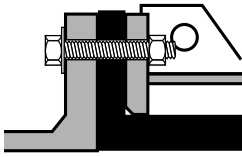

FIGURE 1
Check flange faces of pipe for rough/damaged areas. Pipeline flanges must be flat, properly spaced, and parallel to achieve proper seal. PVC flanges may not seal properly, and are not recommended by Red Valve. If PVC flanges are used, metal back up rings must be placed behind the PVC flanges in order to prevent yielding. Typically, PVC flanges will yield before the valve will seal. Pipeline flanges must be serrated approximately 1/16" deep x 90 degrees using an angle tool point. Pitch must be (6) six cuts per inch. This will prevent the "creep" of the rubber flange of the valve sleeve. Flange I.D.'s must match the sleeve I.D. and must be free of sharp edges which could cut into sleeve flanges. **Flanges with an oversized I.D. can cut the sleeve flange, and are not recommended with the Type A Valve** (See Figures 1 & 2). Grind or file any sharp edges of pipeline flange to prevent damage to the sleeve.